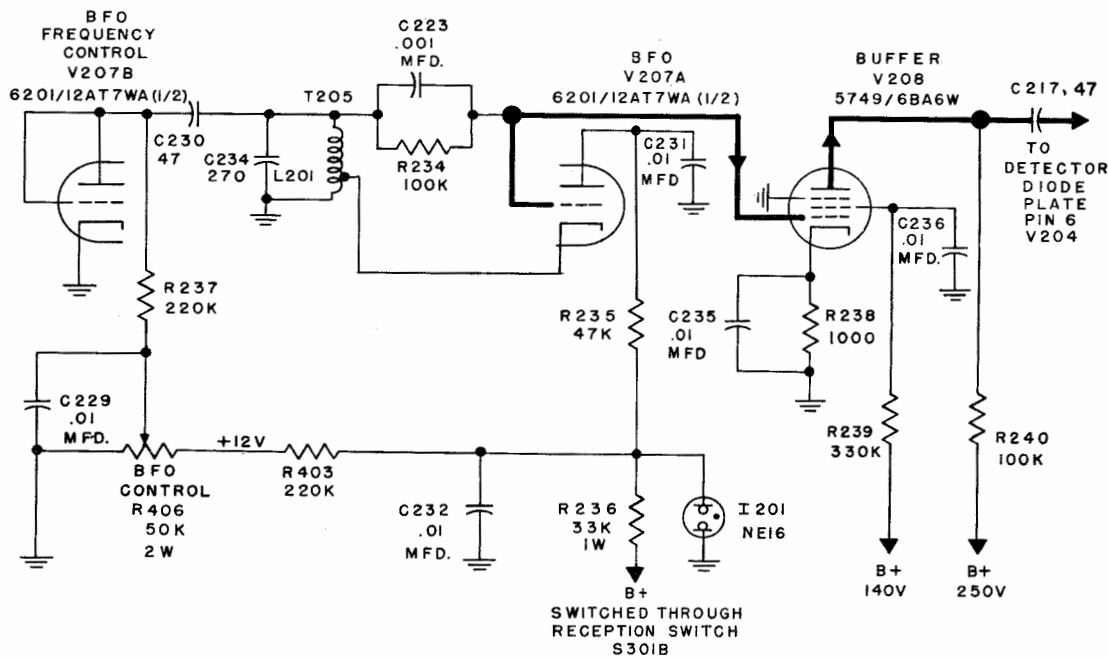

Figure 2-13. Simplified Schematic, BFO Oscillator - Control - Buffer
(3) BFO OSCILLATOR-BFO CONTROL-BUFFER.—Figure 2-13. These circuits function only during A1 or A1 BROAD operation and consist basically of a variable beat frequency oscillator with a center frequency of 75 Kc; a BFO frequency control tube which permits varying this BFO frequency from the front panel or a remote position; and a buffer amplifier stage which is used to isolate the BFO oscillator from signal level changes present at the detector diode plate. The oscillator frequency is normally adjusted to exactly 75 Kc with the BFO control at its midpoint and, in conjunction with the BFO control tube and BFO control, the frequency can be varied over a range of approximately ± 1500 cycles. The BFO oscillator is stable within 100 cycles for changes of $\pm 10\%$ in line voltage, temperature changes from -15°C ($+5^{\circ}\text{F}$) to $+50^{\circ}\text{C}$ ($+122^{\circ}\text{F}$) and for RF gain variations of 100 db. The BFO oscillator consists of one half of a 6201/12AT7WA dual triode (V207A). This triode oscillator which is tuned to the correct frequency by means of C234 and L201 whose inductance is adjusted by a powdered iron slug in the top of T205. L201 has a tap which is connected to the cathode of V207. This tap provides the proper amount of feedback for stable oscillation. Grid conduction during oscillation causes a negative